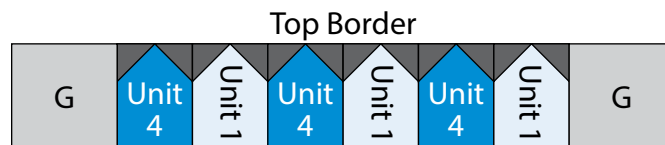

Fig. 12
8. Sew (3) Unit 4 rectangles and (3) Unit 1 rectangles together, alternating them from left to right. Sew (1) 7 1/2" Fabric G square to each end of the newly sewn strip to make the Top Border (Fig. 12).